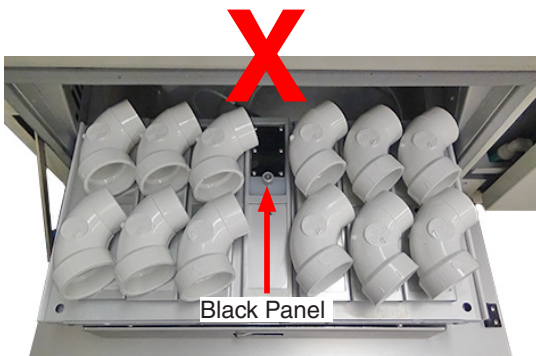
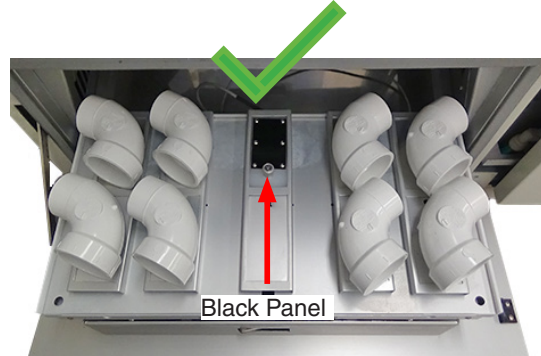

Figure 10.3b: Do Not Cover or Shade Black Panel
Figure 10.3c: Black Panel Must Be Uncovered
- Covering the black panel with specimens or shadow lowers its temperature and can cause the heater to stay on too long, overheating the specimens (Figure 10.3b and Figure 10.3c).